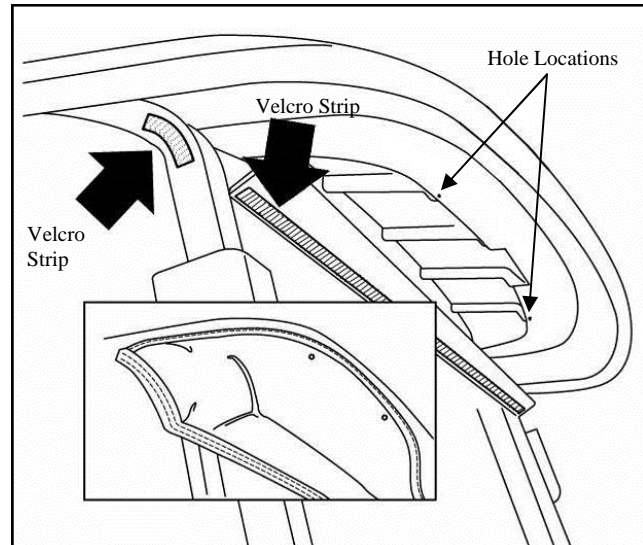

Figure 12: Install Front Draft Panel
- 3.3. Install the front draft panel above the windshield. Place Velcro strips on the outer edge of the left and right windshield supports as shown. Place another strip along the underside of the top lip of the windshield. Using two self drilling screws, fasten through the grommets in the draft panel and into the roof at the start of the outer ridges as shown. (Figure 12) (Note: adhesive backed Velcro should be applied to a clean, dry surface at room temperature.)